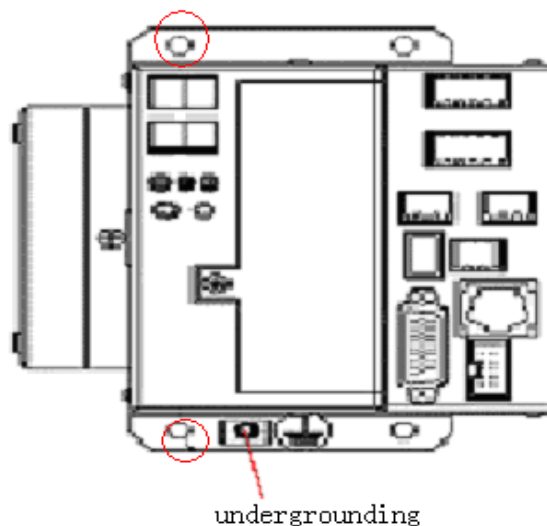

Fig 6.2.1(1) C-IPC fixing
Shown as fig 6.2.1(1), we should remove the C-IPC bus shielding grounding wire and main grounding wire at first, then pull out 24V power wire、C-DIAS bus and S-DVI data wire, at last pull out the whole C-IPC.
1、 There are two bus terminals on the base of C-IPC. Insert C-DIAS bus terminals to relevant position. Then tighten two screws. Insert C-DIAS bus and S-DVI data wire, and connect grounding wire and C-DIAS bus shielding grounding wire to C-IPC PE. See fig 6.2.1(1).